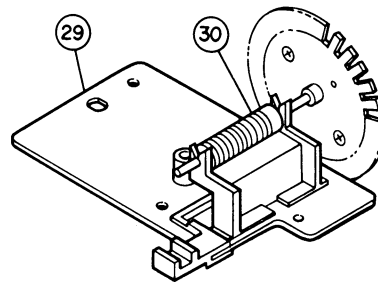

Figure 11
Lift up the Worm Gear Assembly (30) and remove it as shown in Figure 11.